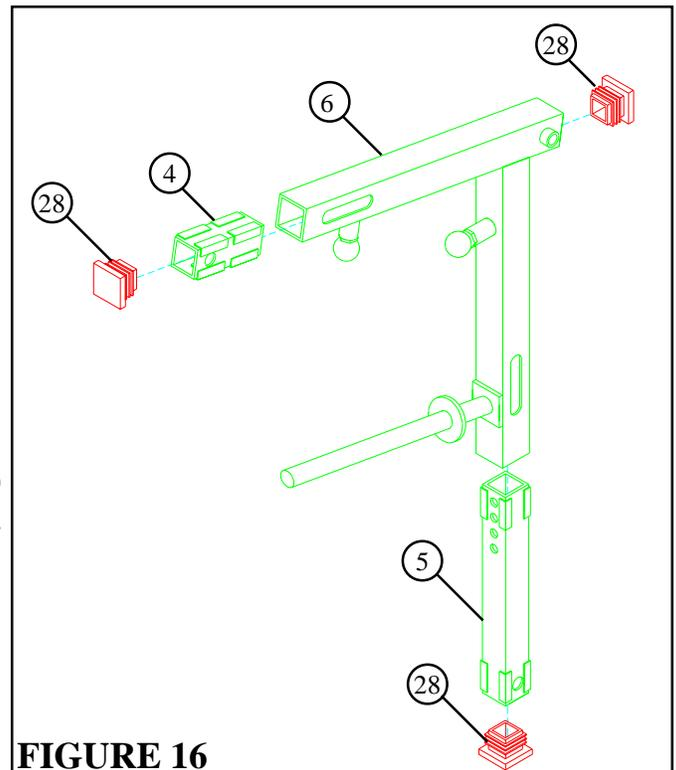

FIGURE 16
STEP 18: Insert 5" & 13-1/2" ROLLER PAD ADJUSTERS (4 & 5) in the ends of the LEG CURL/EXTENSION (6). Pull back on SPRING PINS until ROLLER PAD ADJUSTERS (4 & 5) lock in place. See FIGURE 16.
STEP 19: Insert three 2" SQUARE END CAPS (28) into the ends of the LEG CURL/EXTENSION (6). See FIGURE 16.